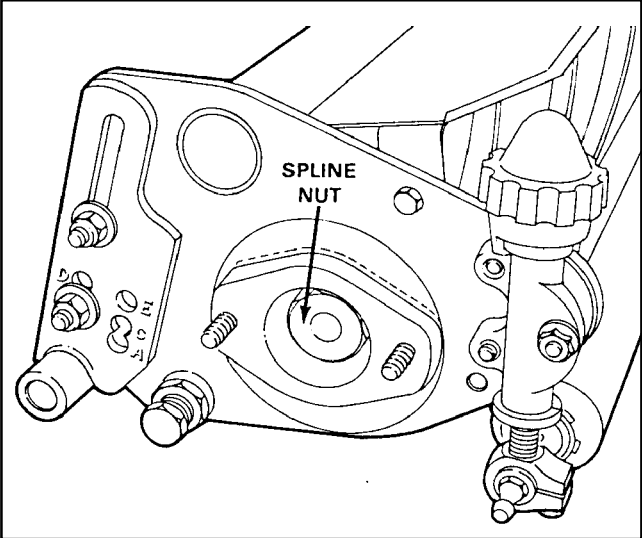

Figure 1
- 2. Tighten spline nut on right end of each cutting unit to 65-70 ft. lb. (Fig. 1).